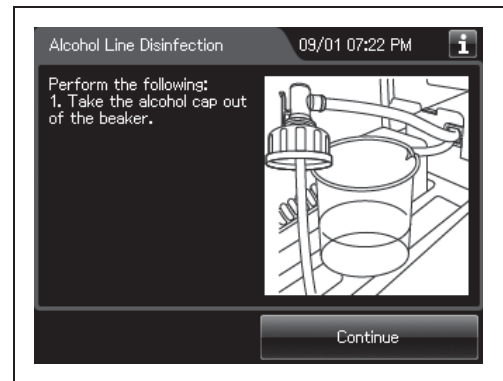

Figure 7.114
- 25** When the touch screen display changes as shown Figure 7.114, take the nozzle of the alcohol cap out of the beaker.